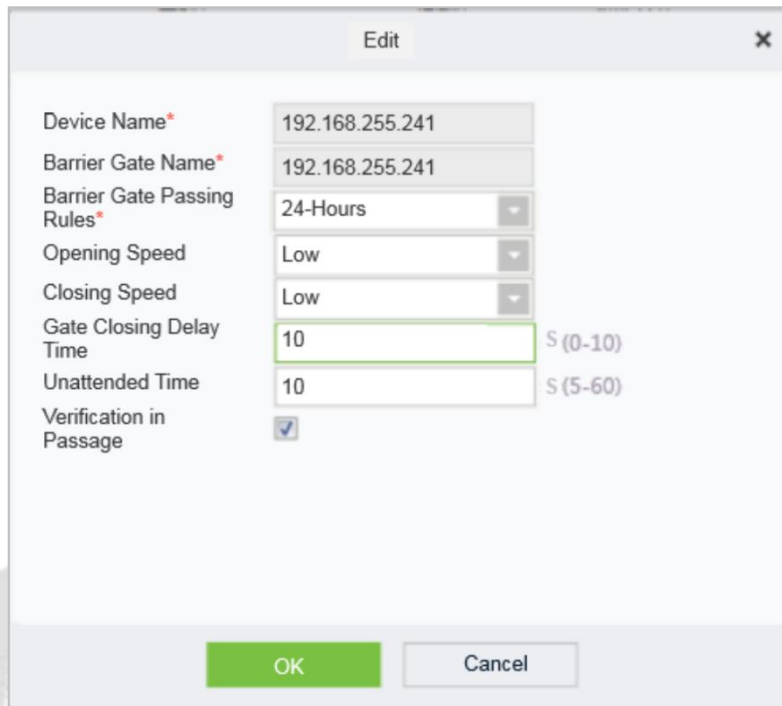

Figure 12-42 Flap Barrier Parameter Configuration Interface
Step 2: In the flap Barrier interface, click the **Edit** button under the name or operation of the flap Barrier to enter the flap Barrier parameter editing interface, as shown in Figure 12-42. Please refer to Table 12-7 for parameter description.